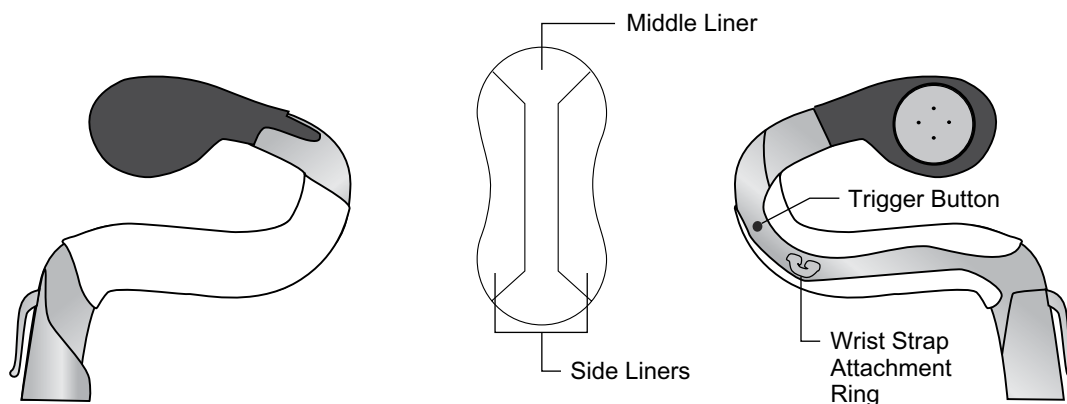

Figure 6-5: Wrist Insert Cover Adhered to Wrist Insert
5. Make sure the entire wrist insert is covered. See Figure 6-5.